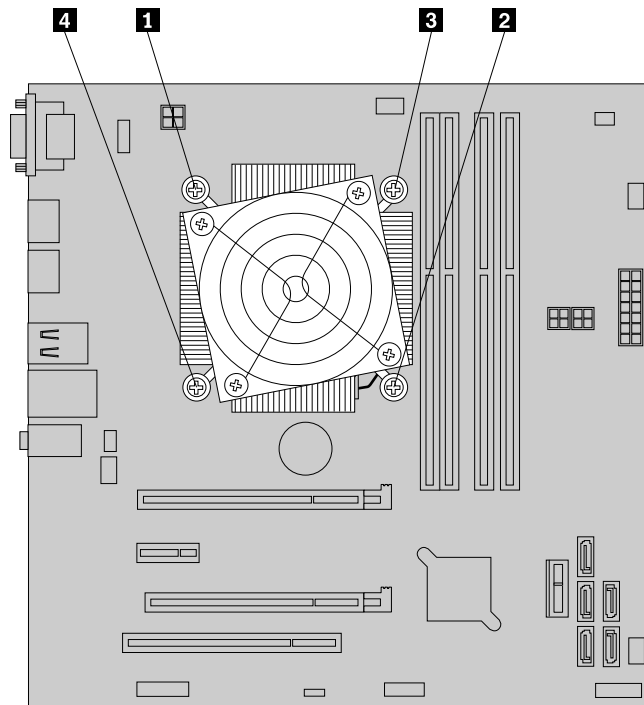

Figure 60. Removing the heat sink and fan assembly
9. Follow this sequence to install the four screws to secure the new heat sink and fan assembly. See Figure 60 “Removing the heat sink and fan assembly” on page 78.